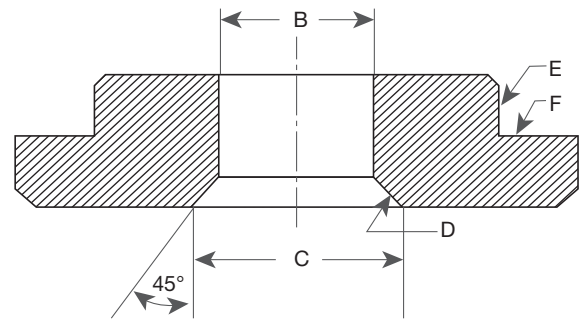

Figure 42: Lower Spring Washer
1. Remove the eductor tube (40) from the base (1) by selecting a drill bit approximately .016" (0.40 mm) smaller in diameter than the outside diameter of the eductor tube. Drill into the bore of the eductor tube where the tubing is attached to the base. This will reduce the tube wall thickness to the extent that it can easily be collapsed for removal. The bellows flange will cover the hole in the guide surface which will remain after the tube is removed.
2. Machine the existing lower spring washer (17) (see Figure 42 and Table 21).